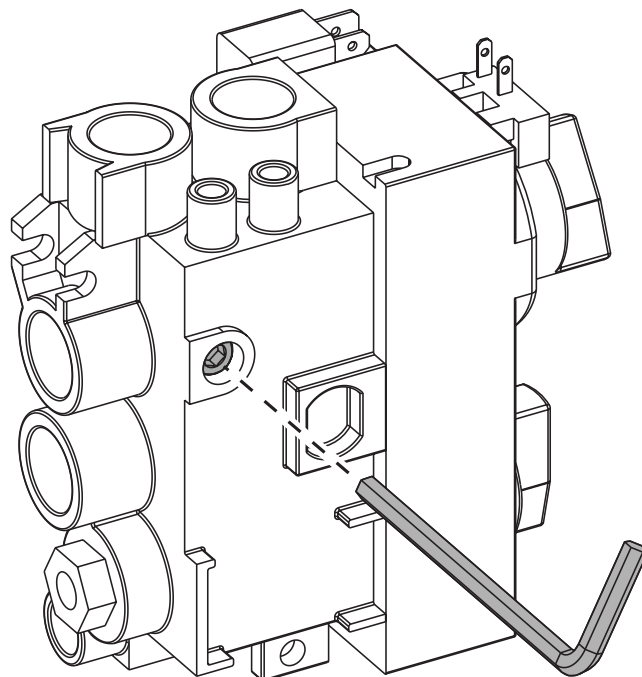

Figure 7
11. Replace the Minimum Rate Screw using a 4mm allen key with new 2.2mm Min. Rate Screw in kit. **See Figure 7.**